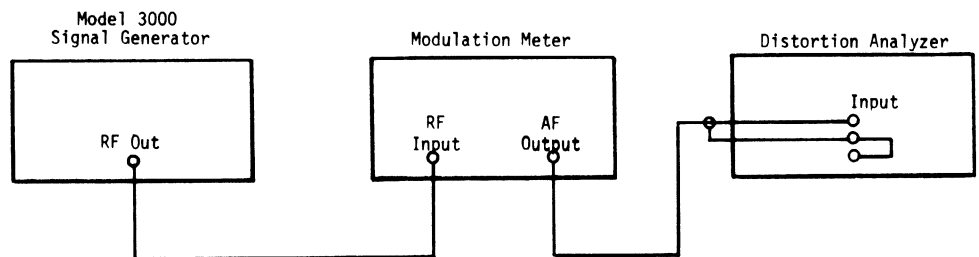

Figure 4-7. FM Distortion Setup
2. Connect the equipment as shown in Figure 4-7.